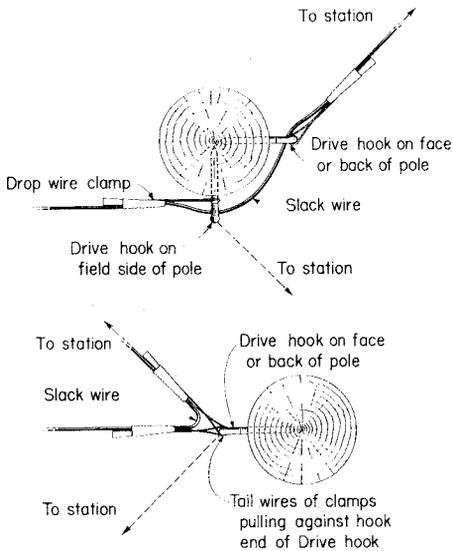

Fig. 8 — Distributing Wires from Pole Other Than Terminal Pole
**3.09** Distribute drop wires as illustrated in Fig. 8.